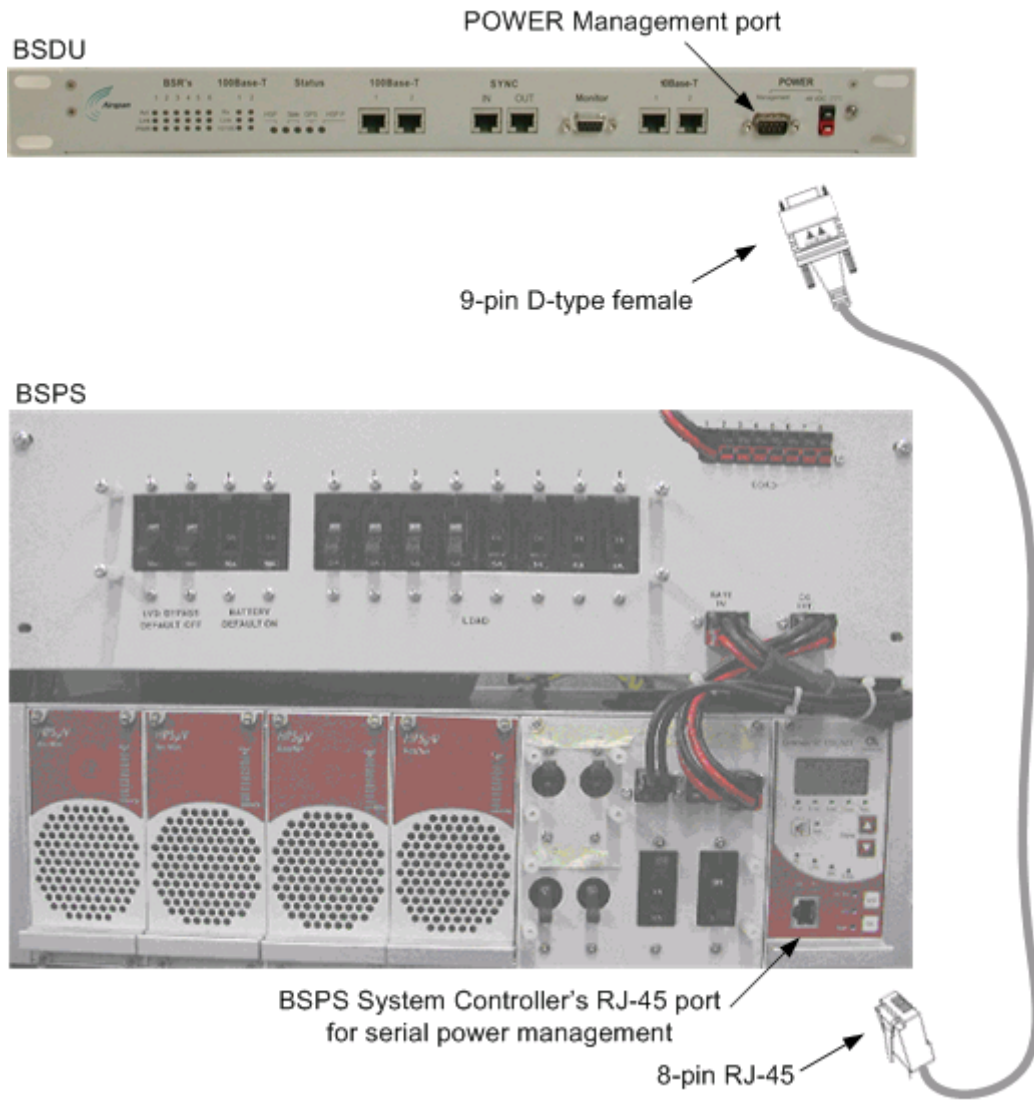

Figure 5-7: BSDU-to-BSPS serial cable connections for BSPS power management
1. Connect the **9-pin D-type female** connector, at one end of the cable, to the BSDU's 9-pin D-type port labeled **POWER Management** (see Figure 5-7).
2. Connect the **RJ-45** connector, at the other end of the cable, to the BSPS System Controller's RJ-45 serial port (see Figure 5-7).